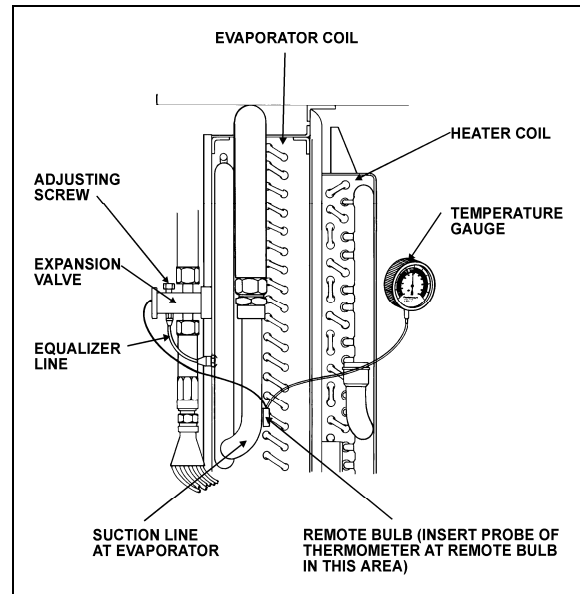

FIGURE 34: SUPERHEAT ADJUSTMENT INSTALLATION22046
The starting method of adjusting the superheat is to unscrew completely the main evaporator expansion valve adjusting screw, then screw in 13 turns clockwise for 134A (Fig. 34).
3. Install a remote reading thermometer to the evaporator outlet line near the existing remote bulb (Fig. 34).